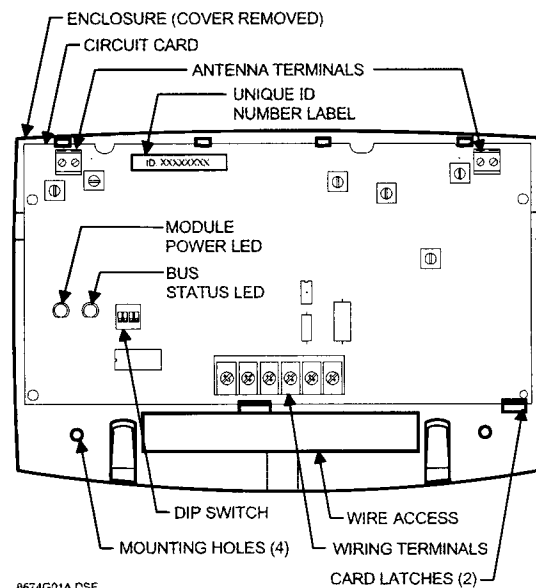
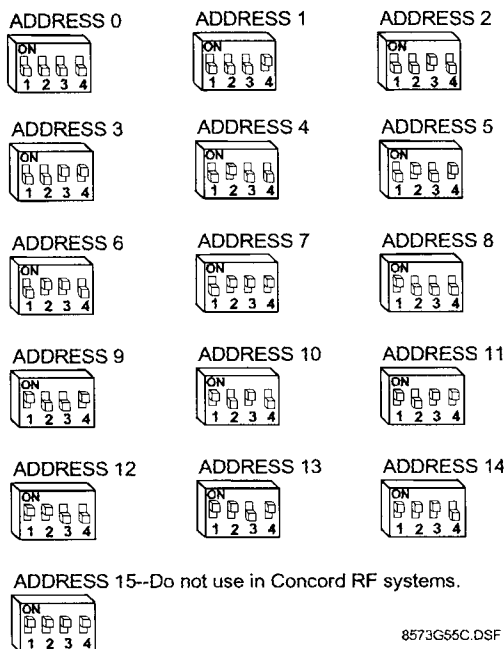

Figure 1. RF Transceiver Module Components
Figure 7. Device Address DIP Switch Settings
Figure 1 shows transceiver components and the following table 1 describes them.
1. Hold the base against the mounting surface and mark the four mounting holes (figure 1). Remember to leave at least 10 inches above the base for the antennas.
1. Loosen the **inside** terminals of the left and right antenna terminal blocks (see figure 1).
Locate the DIP switches on the transceiver (see figure 1) and set them to the desired address 0–15 (see figure 7).
2. Change the DIP switch setting on the transceiver (see figure 7). Remember, the setting must be different from all other bus devices.